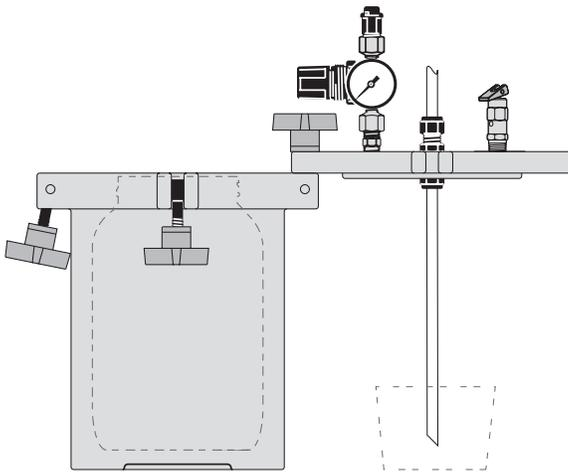

Figure 2
3. Confirm that the indicated gauge pressure is zero **3**. If the gauge reads zero, slowly release the cover clamps **4** and remove the cover as shown in Figure 2 (page 8).
3. Remove the tank cover and temporarily store it by reattaching one of the clamps (Figure 2). When refilling the tank, use a cup (not included) to catch any excess material that drips from the feed tube.